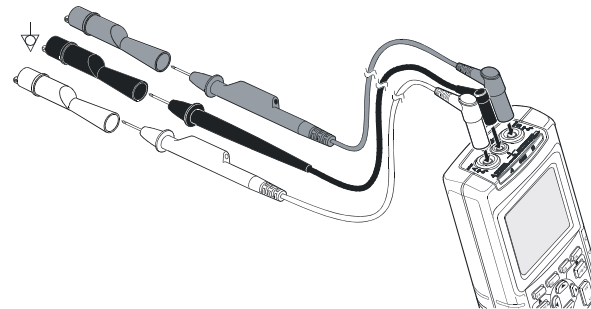

Figure 9-3. Grounding with Unshielded Ground Lead
- Use the unshielded black ground lead to COM (common) for Ohm ( $\Omega$ ), Continuity, Diode, and Capacitance measurements. (See Figure 9-3.)